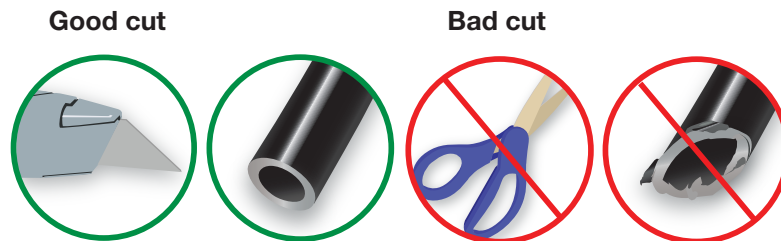

fig. 12
1. Cut the air line in half. Make clean, square cuts with a razor blade or hose cutter (Fig. 12). Do not use scissors or wire cutters.